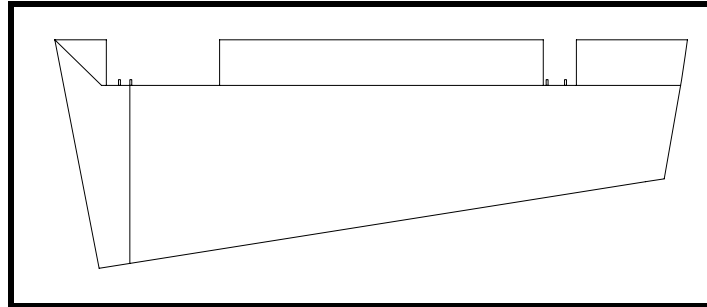

Figure 16
- ❑ Fit the skin below Sta. 0. See Figure 16. This skin wraps around the bottom of the rudder. At the spar, it will have the same curvature as the spar, and at the trailing edge it will have a very sharp radius. For this reason, you will have to soak the plywood to bend it to the required shape.